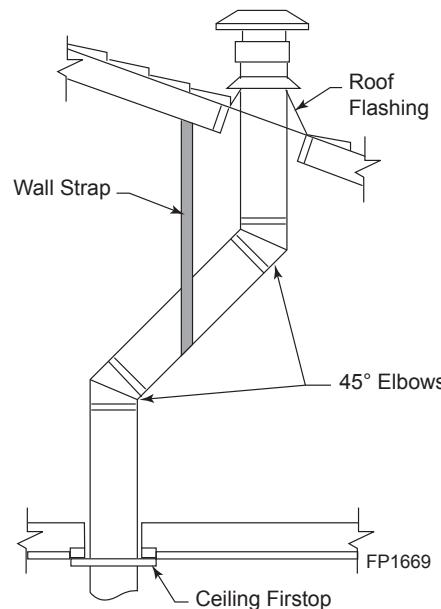

**Figure 31 -
- Two sets of 45° elbows offsets may be used within the vertical sections. From 0 to a maximum of 8' (2.5 m) of vent pipe can be used between elbows. *Figure 31*
- The maximum angular variation allowed in the system is 270°. *Figure 31*